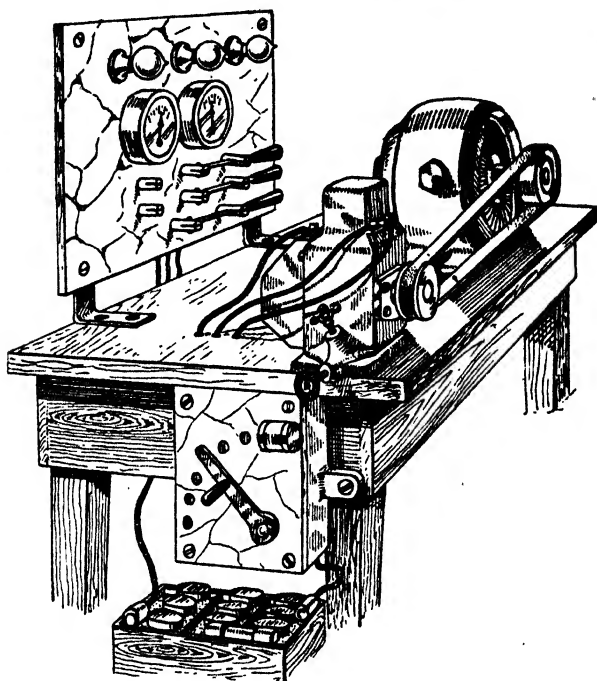
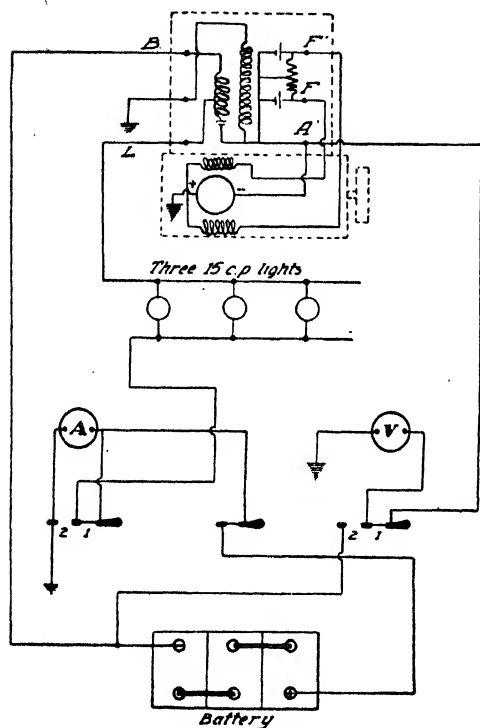

Fig. 288. Diagram of Layout for Testing Gray & Davis Generator
Fig. 289. Wiring Diagram for Gray & Davis Dynamo and Regulator
(1) Ammeter reading to 400 amperes. (2) One spring scale reading to 20 pounds. (3) One single-pole single-throw switch of 200-ampere capacity. (4) Steel clamp and base for motor. (5) One 6-inch flanged iron pulley. (6) Sufficient No. 1 flexible cable for connections.
*Generator Test Chart.* In order to enable the tester to check the performance of the generator, the test chart, Table III, has been supplied. The method of mounting the  $\frac{1}{2}$ -h.p. motor, switches, instruments, rheostat, and storage battery is shown in Fig. 288, while the wiring diagram showing the method of connecting up the various units is illustrated in Fig. 289. Referring to the test chart, Table III, column 1 gives the types of generators manufactured by Gray & Davis. To determine the type number, it is necessary to note only the first three numbers on the name plate. For instance, 2221541 indicates type 222, machine 1541. This applies to all machines of this make turned out since September, 1915.
amperes. To test the cut-out, connect the voltmeter across the generator brushes or have the voltmeter switch in position 1, Fig. 289. Gradually speed up the generator and observe the voltmeter to determine the closing voltage. The closing voltage is the reading on the voltmeter at the instant that the cut-out points come together. Adjust the cut-out spring to bring the closing voltage within the limits given above. With the lamps turned off and the ammeter switch in position 1, slow the machine down and observe the ammeter reading when the cut-out points open. Adjust the cut-out spring to make this reading fall within the above limits. In case a satisfactory result is